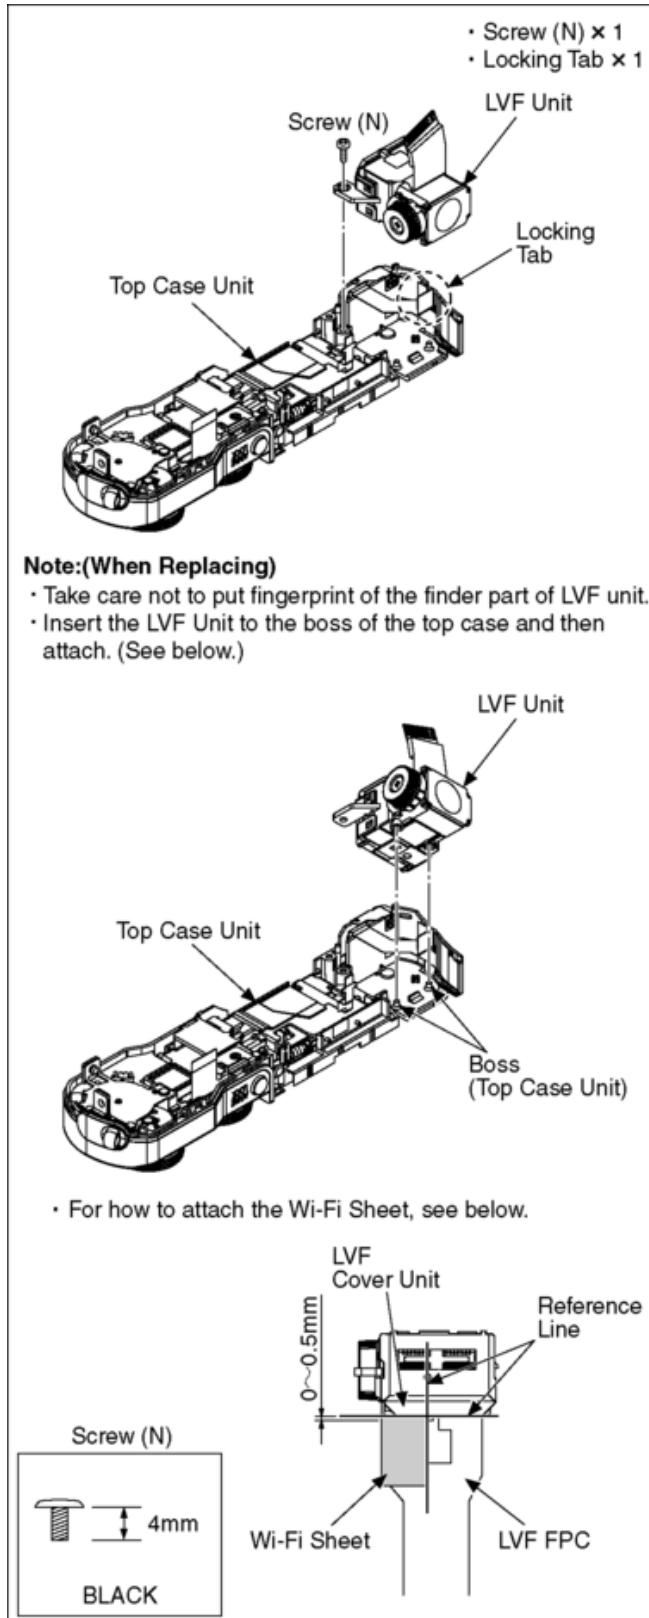

Fig. D13
| 10 | LVF Unit | (Fig. D13) | Screw (N) × 1 Locking tab × 1 Wi-Fi Sheet LVF Unit |